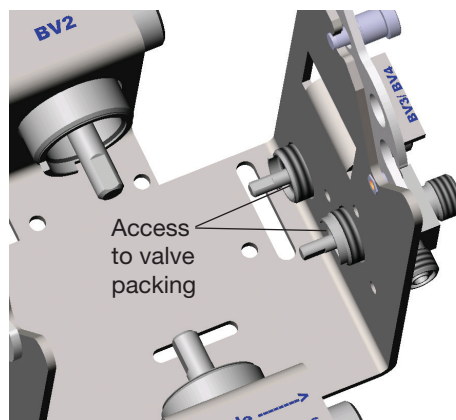

Fig. 6
- Adjust the valve packing according to *Packing Adjustment Card for 40G Series Ball Valves*, page 28. Fig. 6.